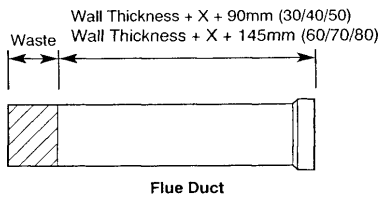

Fig. 42
4. Take the **Flue Duct** and measure the dimension below from the flared end. Cut the waste off the plain end (Fig. 42).